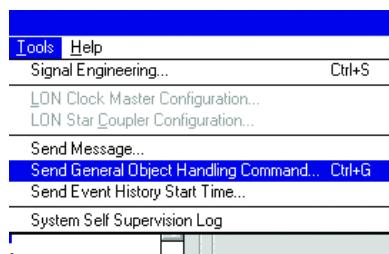

Figure 35: Send General Object Handling Command is selected from the Tools menu
2. From the menu bar, select **Tools/Send General Object Handling Command**. See Figure 35.